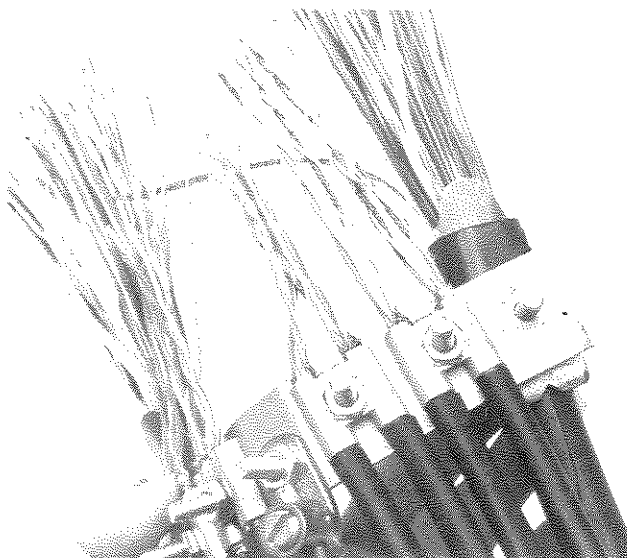

Figure 4
4.02 Insert cable shield bond connector studs through holes at ends of bonding support plate. Snugly apply a plastic tie wrap around bundle of cables and wires to keep them from moving. Apply and tighten nuts supplied with the connector. Be sure to follow manufacturer's instructions for nut torquing if applicable. See Figure 4.